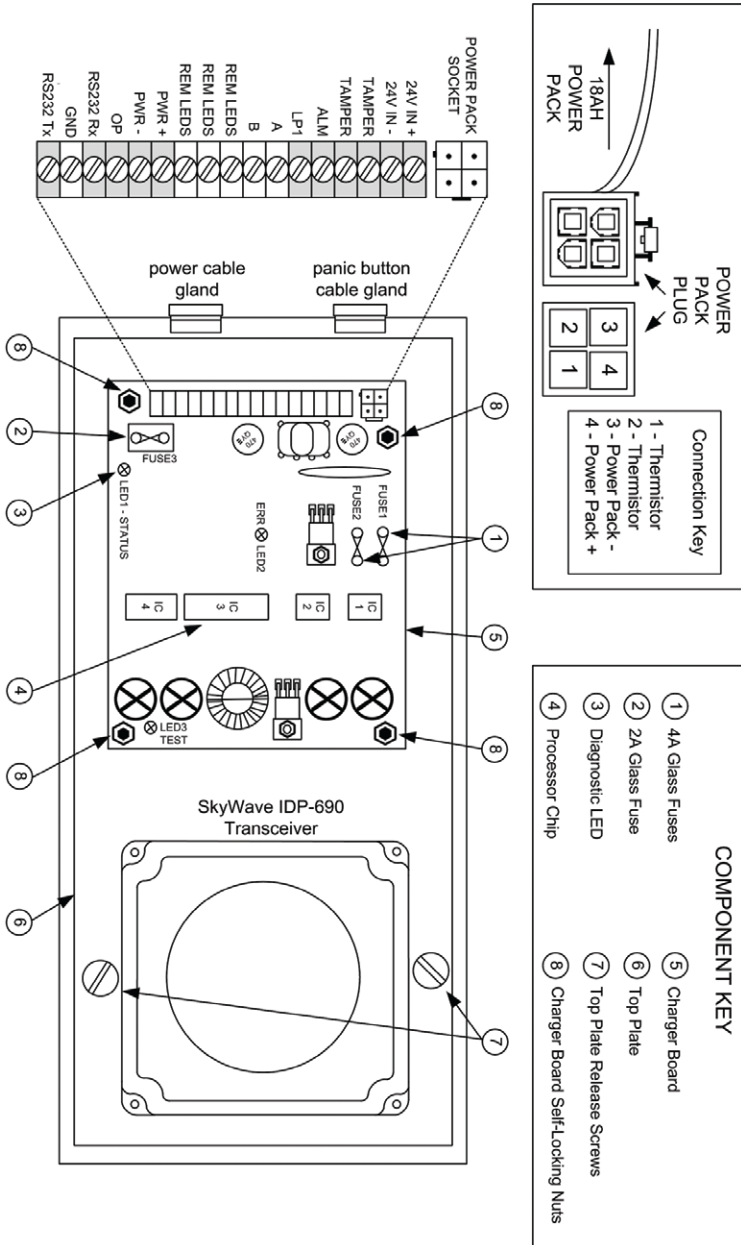

Figure 11 - DSAS Mk2 plan view
5. Connect fuse FUSE1, as shown in Figure 11. The charger board LED1 (status) should follow a start up sequence as per section 10 (Charger Board LED Diagnostics). The transceiver LED will flash 5 times and then turn off.
6. Connect fuse FUSE2 as shown in Figure 11.
Please refer to **Figure 11** for LED locations.
Insert FUSE1, THEN insert FUSE2 (see plan diagram in the installation guide, Figure 11). PLEASE NOTE: The unit may be damaged if these fuses are not connected in the correct order.